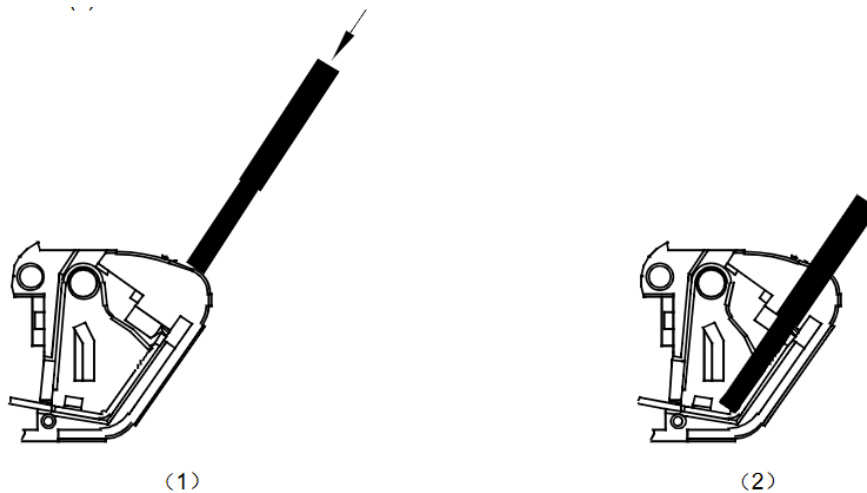

Figure 4
- The method of Wiring as shown in figure 4. Insert the wire into the wire insertion hole (circular hole) in the direction of (1) arrow and insert the wire straight into the bottom, as shown in (2)